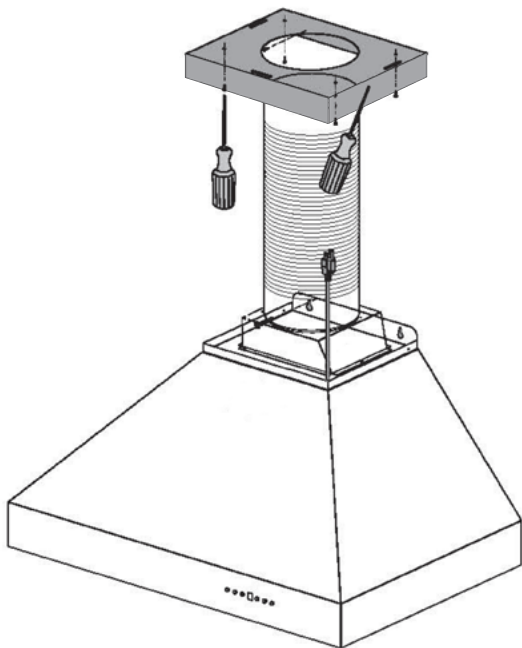

Figure 9
1. Secure the crown molding bracket to the ceiling directly above the range hood by using the hardware provided with the crown molding. Then secure the chimney mounting bracket onto the crown molding bracket with 4 screws/washers (C/D) similar to step 1 on page 7. *Figure 9*